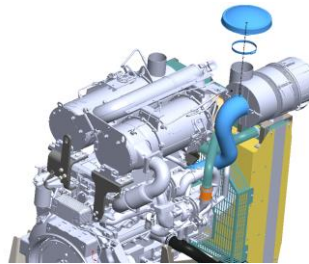

fig. 4
3. Fasten the small diameter of the Air Cleaner Hose (5) to the turbo inlet using Hose Clamp (7). Fasten the large diameter end of the Hose to the Air Cleaner (1) using Hose Clamp (8) as shown in figure 4.
4. Fasten the Rain Cap (3) to the inlet of Air Cleaner (1) using the clamp that comes with the Rain Cap (4) as shown in figure 4.